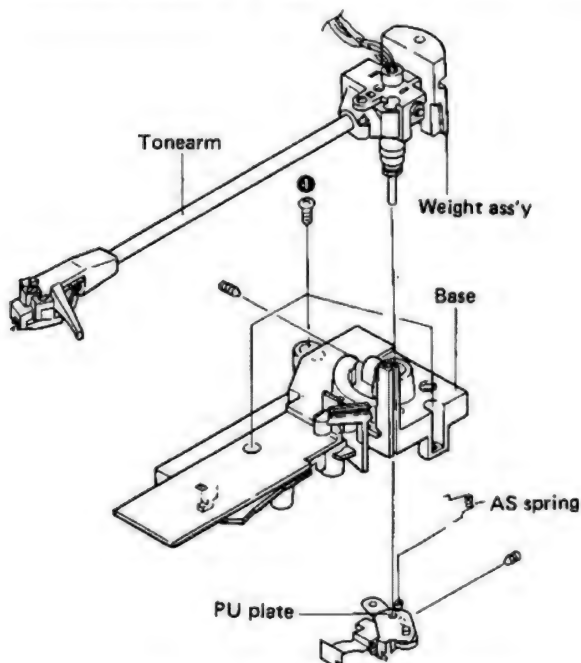

Fig. 5-11 Tonearm Ass'y Disassembly
11. The tonearm ass'y can be removed after undoing screw 4 . (See Fig. 5-11)